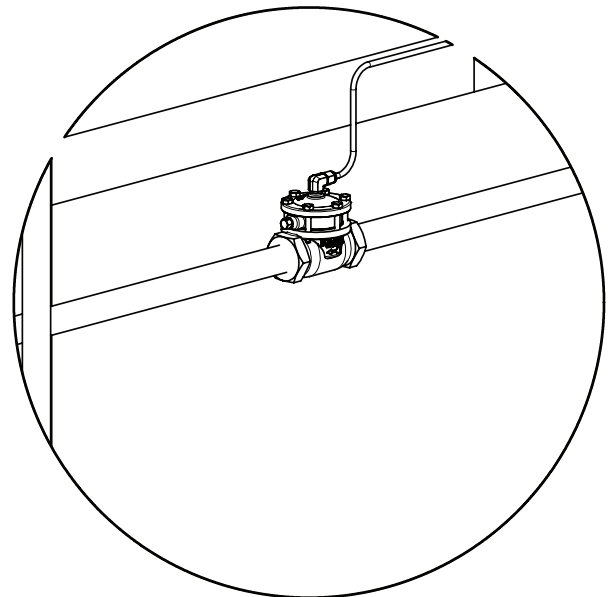

Figure 1
**MT Pressure Closing Valve** - remove the plastic stopper from the tapped hole in the top of the bonnet (1" valve) or the lip of the bonnet 2"-6" valve, and install a tubing fitting (not provided on 2"-6" valve). Tubing must be installed from your source of instrument gas. (see figure 1)